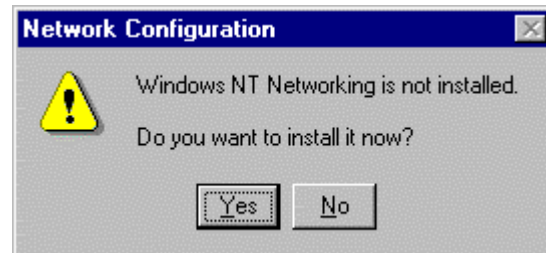

Fig. 8-2 Network Configuration
- ▶ Confirm the "Network Configuration" dialog box (Fig. 8-2) by clicking "Yes".